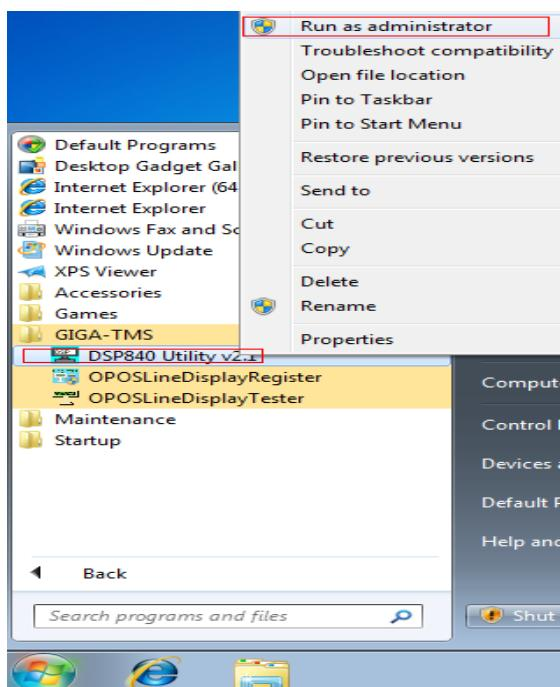

Figure 3-1.
1. start menu → All Programs → GIGA-TMS → DSP840 Utility, press mouse right key then Click run as administrator. See figure 3-1.